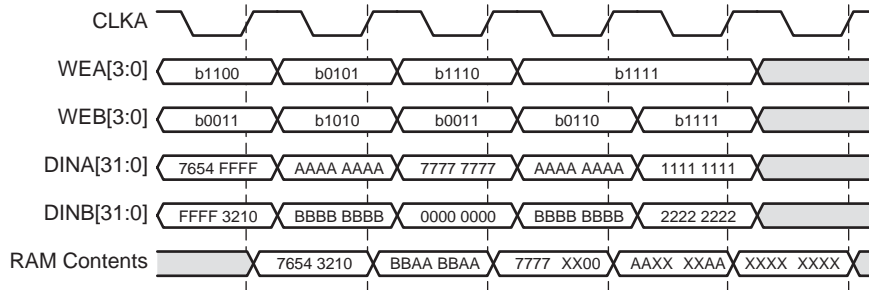

Figure 32: Write-Write Collision Example
- Using Byte-Writes.** When using byte-writes, memory contents are not corrupted when separate bytes are written in the same data word. RAM contents are corrupted only when both ports attempt to Write the same byte. Figure 32 illustrates this case. Assume ADDRA = ADDRB = 0.